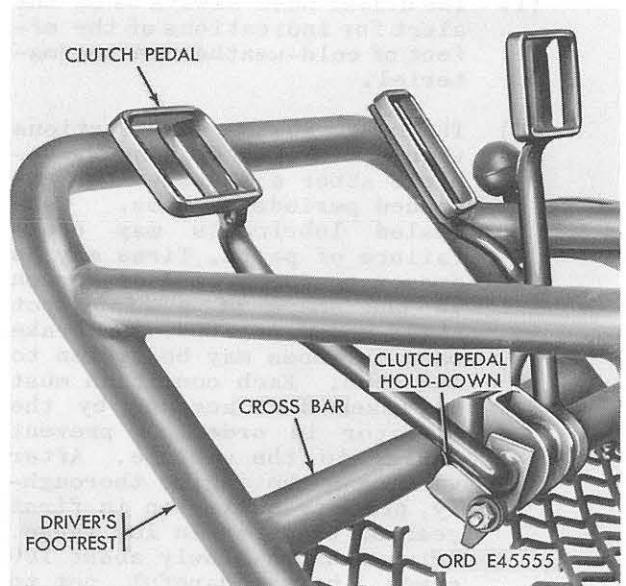

Figure 47. Clutch pedal lock down hold-down clutch pedal in released position - M274A1 vehicle.
- (4) Depress clutch pedal and position clutch pedal lock down against driver's footrest cross bar as shown in figure 47. The lock down will hold clutch pedal in released position and disengage engine from transmission to improve cranking ability during cold-weather starting.
- (5) Start engine as directed in paragraph 25.
- (6) When engine fails to start after the first attempt, repeat procedures in paragraphs (2) and (3), above.